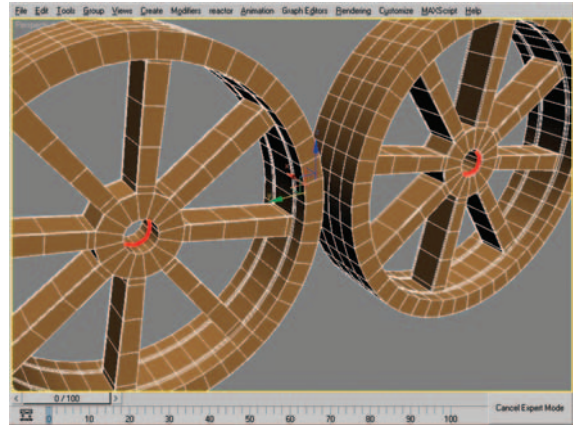

Figure 8.105 Edge selection before and after using Chamfer.
16. Repeat the process used in step 13 (with the same Chamfer value of 1) on the edge loop in the center of the wheel hub (small opening) (Figure 8.105).